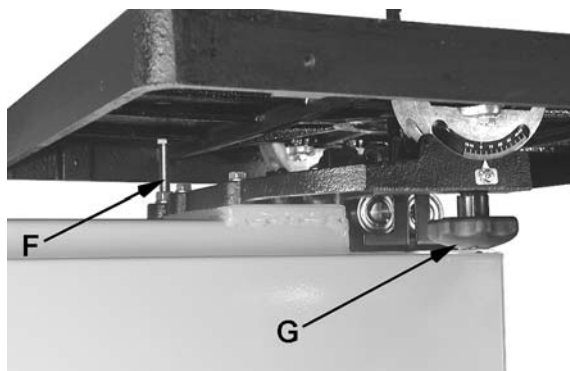

Figure 16
2. Loosen the lock knobs (G, Figure 16).
Note: Table stop bolt (F, Figure 16) must be removed to tilt table to the left.